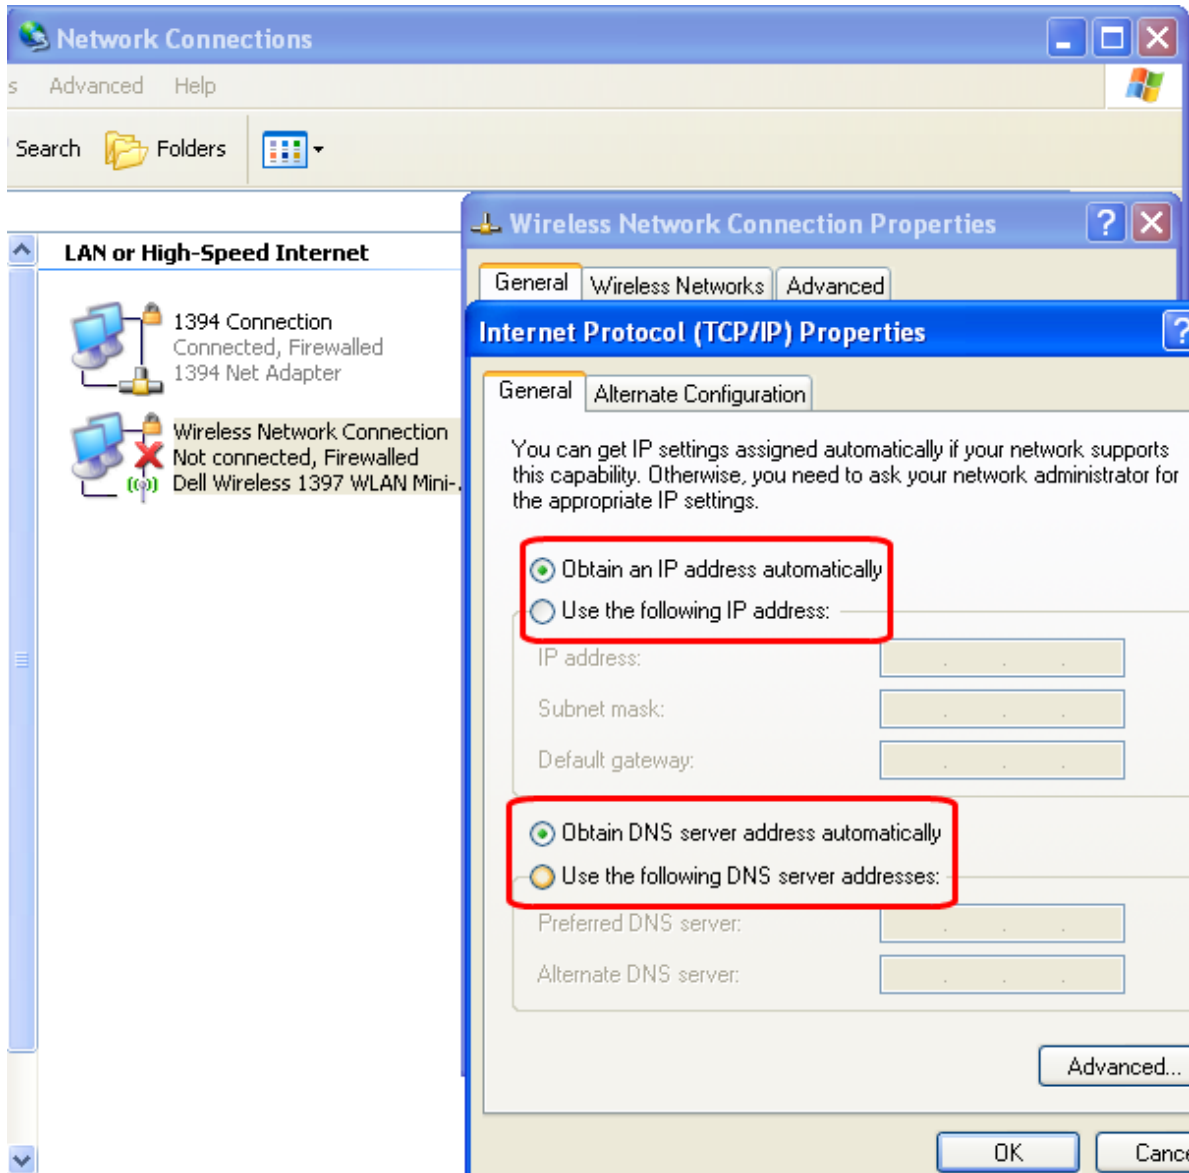

Figure 2-5 Wireless Network Connection Properties for OMT
3. Change the TCP/IP properties (see Figure 2-5):